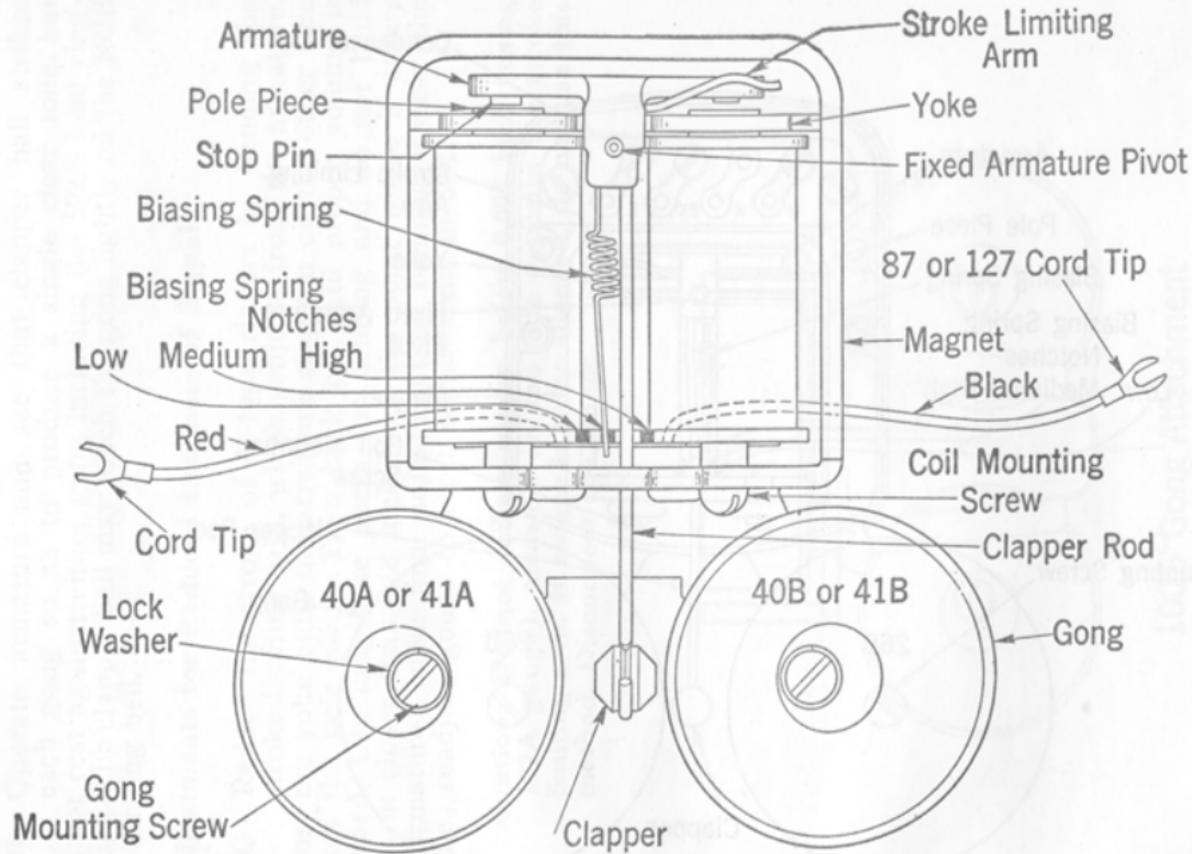

Fig. 1—Typical B-Type Ringer
4.01 All B-type ringers sent to the field whether installed in instruments or shipped loosely for repair purposes will have the biasing spring located in the high notch (see Fig. 1).